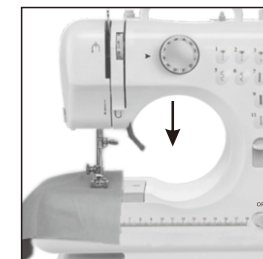

Fig.8
2. Lower the presser foot (Fig.8).